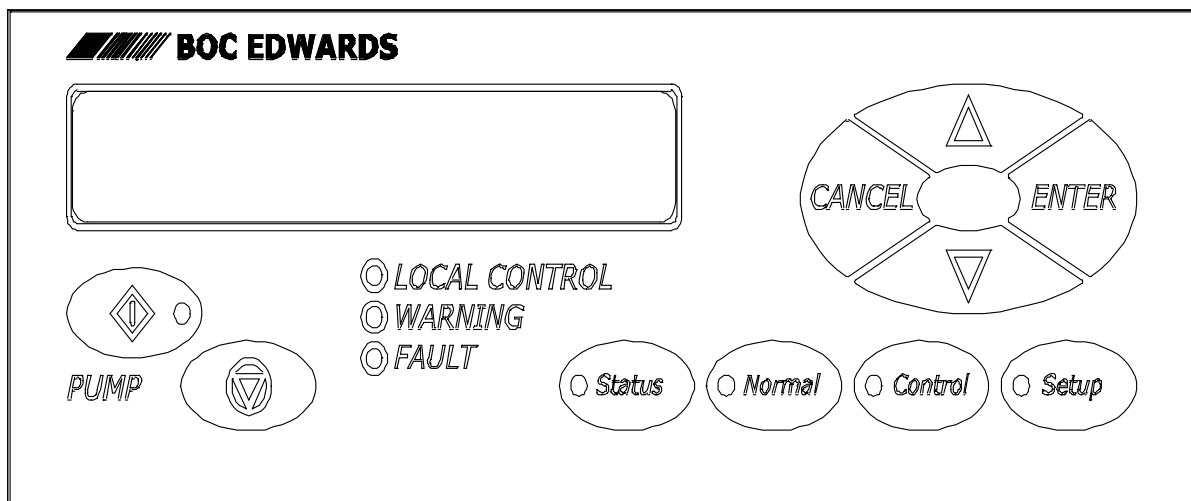

Figure 4.2: Keypad and Liquid Crystal Display(LCD)
An illustration of the keypad and liquid crystal display (LCD) is given in Figure 4.2, below. Starting from the top left corner of this figure is the BOC Edwards logo. Beneath logo is the Liquid Crystal Display (hereafter referred to as LCD). To the lower left of the LCD are two buttons labeled PUMP; the button directly above this label is the pump ON button, and the button to the right is the pump OFF button; the ON button has an embedded light emitting diode (LED) which illuminates green color when pump is energized. To the right of the PUMP control buttons are a column of three, LED's labeled LOCAL CONTROL (illuminates green color when active), WARNING (illuminates amber color when active), and FAULT (illuminates red color when active). Next is a row of four (4) buttons labeled from left to right as STATUS, NORMAL, CONTROL, and SETUP; these buttons allow the operator to select and enter the major display and edit menus in the HTU controller; each has embedded LED which illuminates green color when active. Pressing any one of these buttons: Status Normal Control Setup causes display to change to that particular menu. Finally, in the upper right corner there is an oval array of four buttons labeled as CANCEL, (down arrow), ENTER, and (up arrow); these buttons allow the operator to scroll through to view and/or revise the contents in each of the four major display and edit menus.